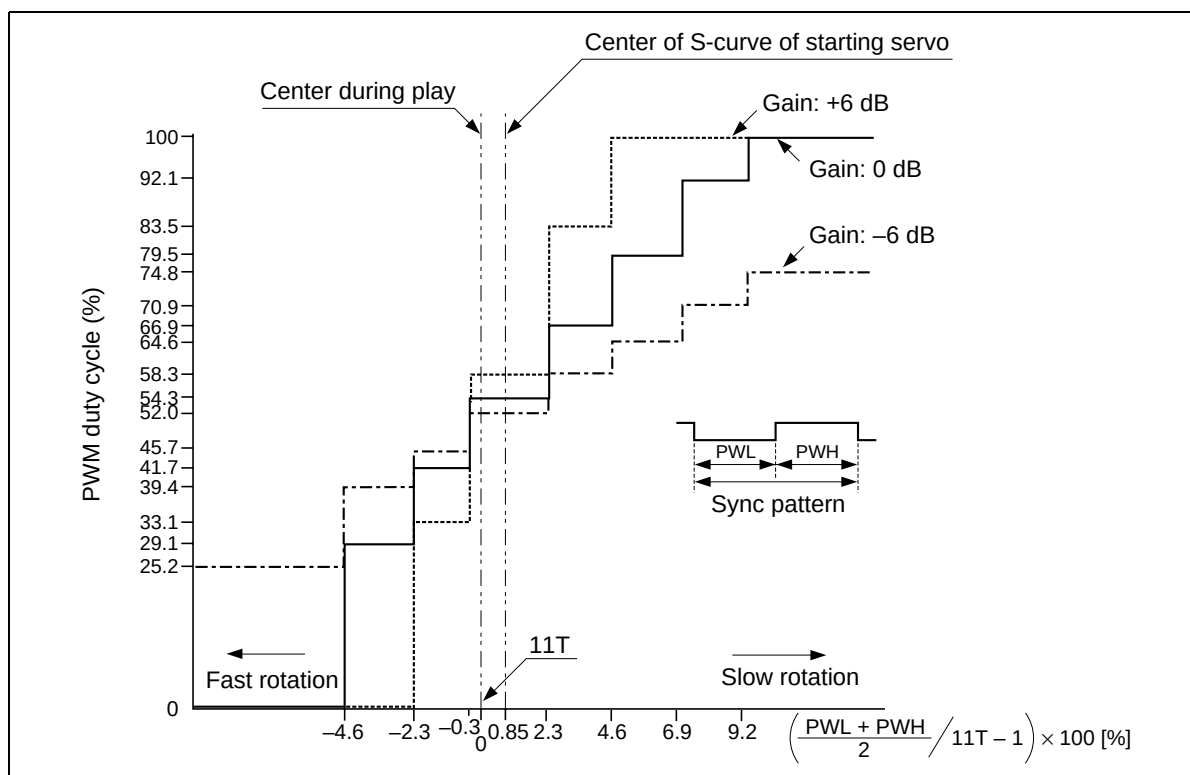

Figure 18 Duty Cycle Characteristic of PWM Output (Speed Error) in CLV Starting Mode
**Starting Mode:** See table 2 for the outputs at the MON and MSTOP pins. The PWM pin outputs a rectangular wave with a duty cycle corresponding to the arithmetic mean of the pulse width on the 11-T low side and 11-T high side in the sync signal detected from the disc. See the PWM output duty cycle characteristic in figure 18.